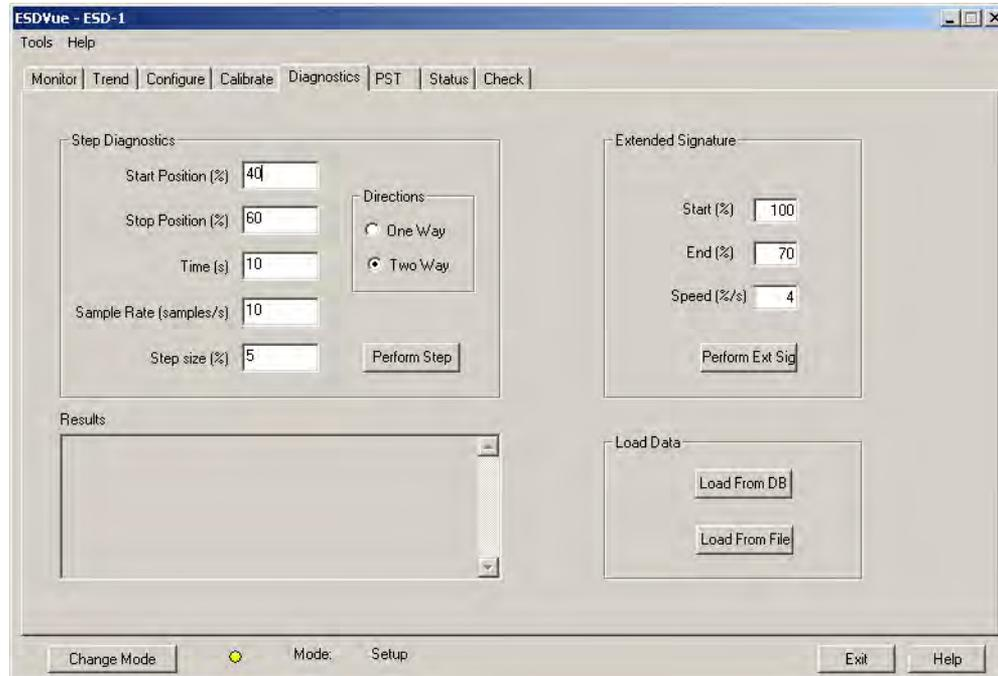

Figure 239 Diagnostics Tab
1. Click the **Diagnostics** tab (Figure 239).